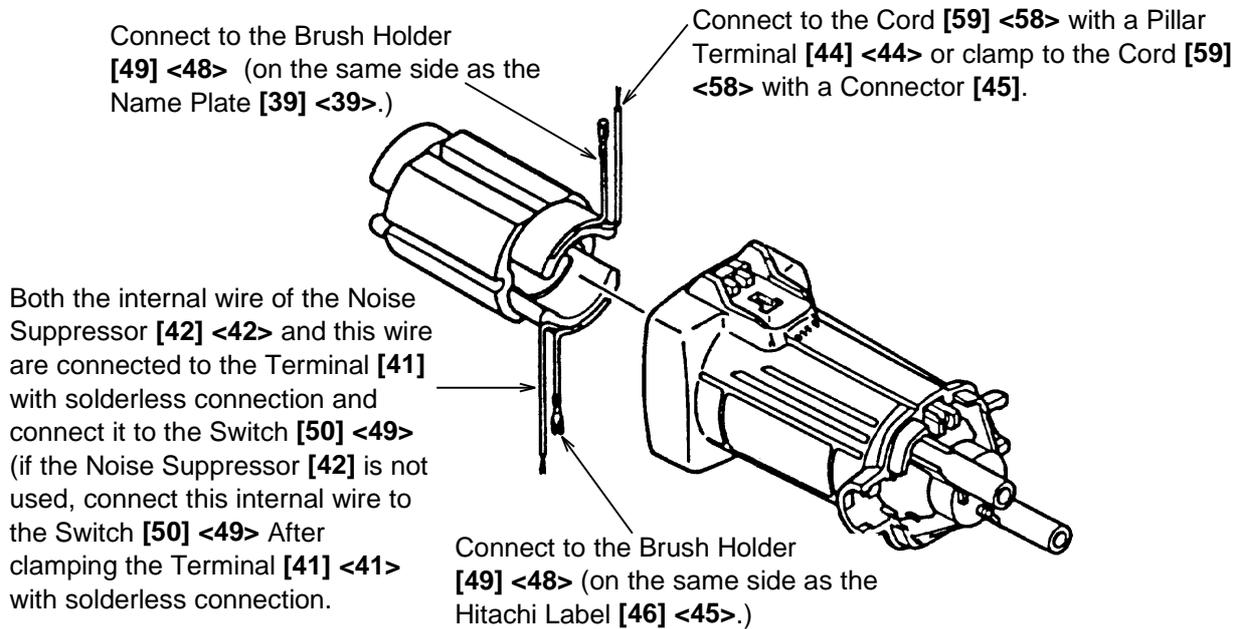

Fig. 8
(4) When installing the Stator [13] <13> into the Housing Ass'y [38] <38>, insert it while taking care of the placement of the internal wires of the Stator [13] <13> as indicated in Fig. 8.
Connect the four internal wires of Stator [13] <13> with the parts indicated in Fig. 8